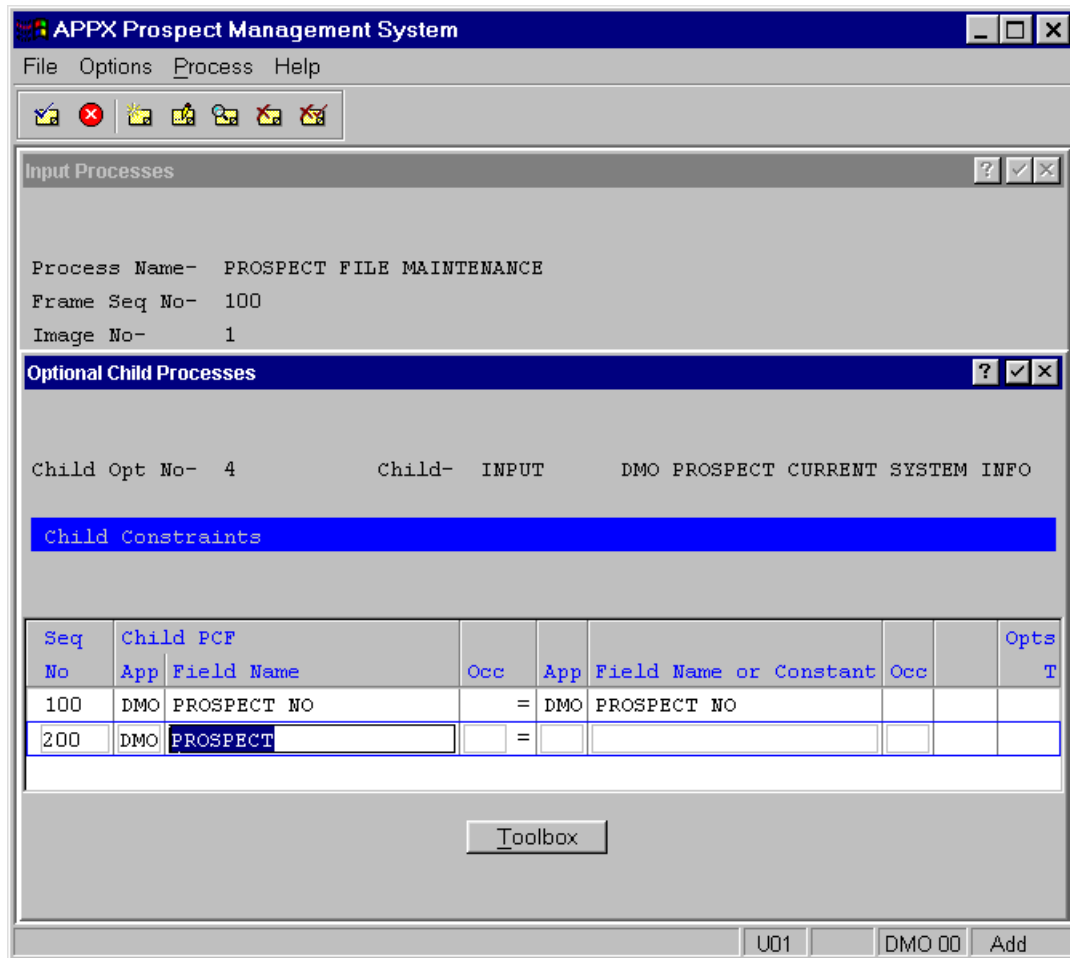

Figure E3.21 – Child Constraint Record
➤ *Figure E3.21* shows how your Child Constraint should look.
- By far the simplest and quickest way to test this process is to use **Option 99 (^99)** while you are positioned at the Process, Frame or Image level of PROSPECT FILE MAINTENANCE. APPX automatically defaults the database ID (DMO), application ID (DMO 00), process type (INPUT) and process name (PROSPECT FILE MAINTENANCE) so you simply press ENTER to invoke the process (*Figure E3.21*). Option 99 is available throughout APPX Application Design for testing processes directly rather than running a menu and then invoking the process to be tested.